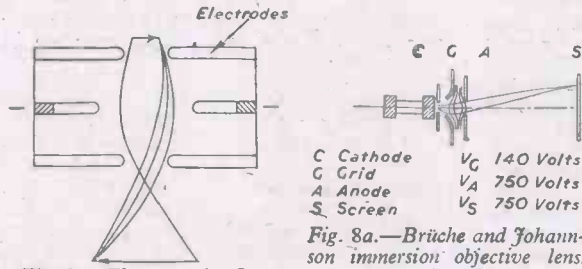

Fig. 8.—Electrostatic Lens.
An electrostatic lens (5) is shown in Figs. 8 and 8a. The principle may be understood if we consider the electron in its simple form, i.e., a negative particle, and remember that a positively charged surface will attract it and that a negatively charged surface will repel it. Electrons arriving at the outer plate which is at anode potential pass freely through its aperture and then come under the influence of the negative converging field of the negative electrode. The rays now pass through the third electrode plate and travel in the form of a divergent cone until another electrostatic lens is reached. The focusing is a function of the strength and form of the electrostatic fields existing between the various lens electrodes. From a consideration of the electrostatic lens equation